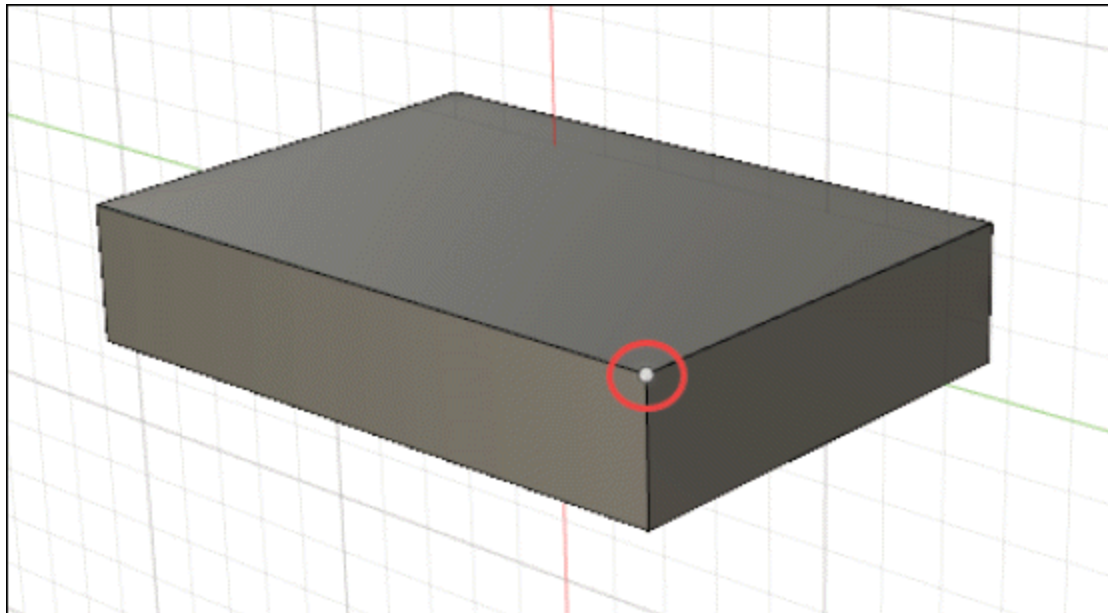

Figure-128. Point created through two edges
- On selecting the second line, preview of point will be displayed. Click on the **OK** button from the dialog box to create the point; refer to Figure-128.